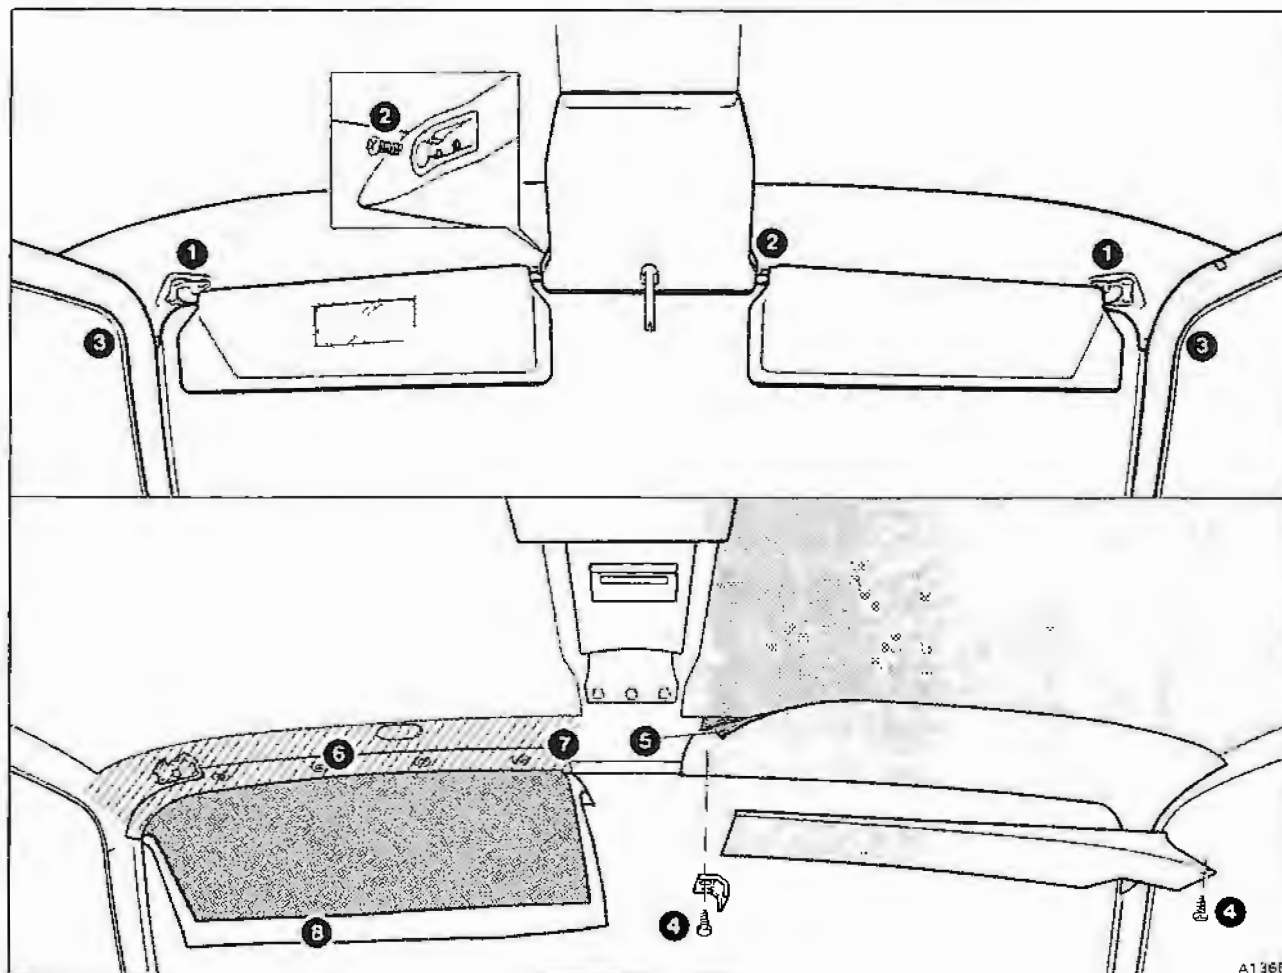
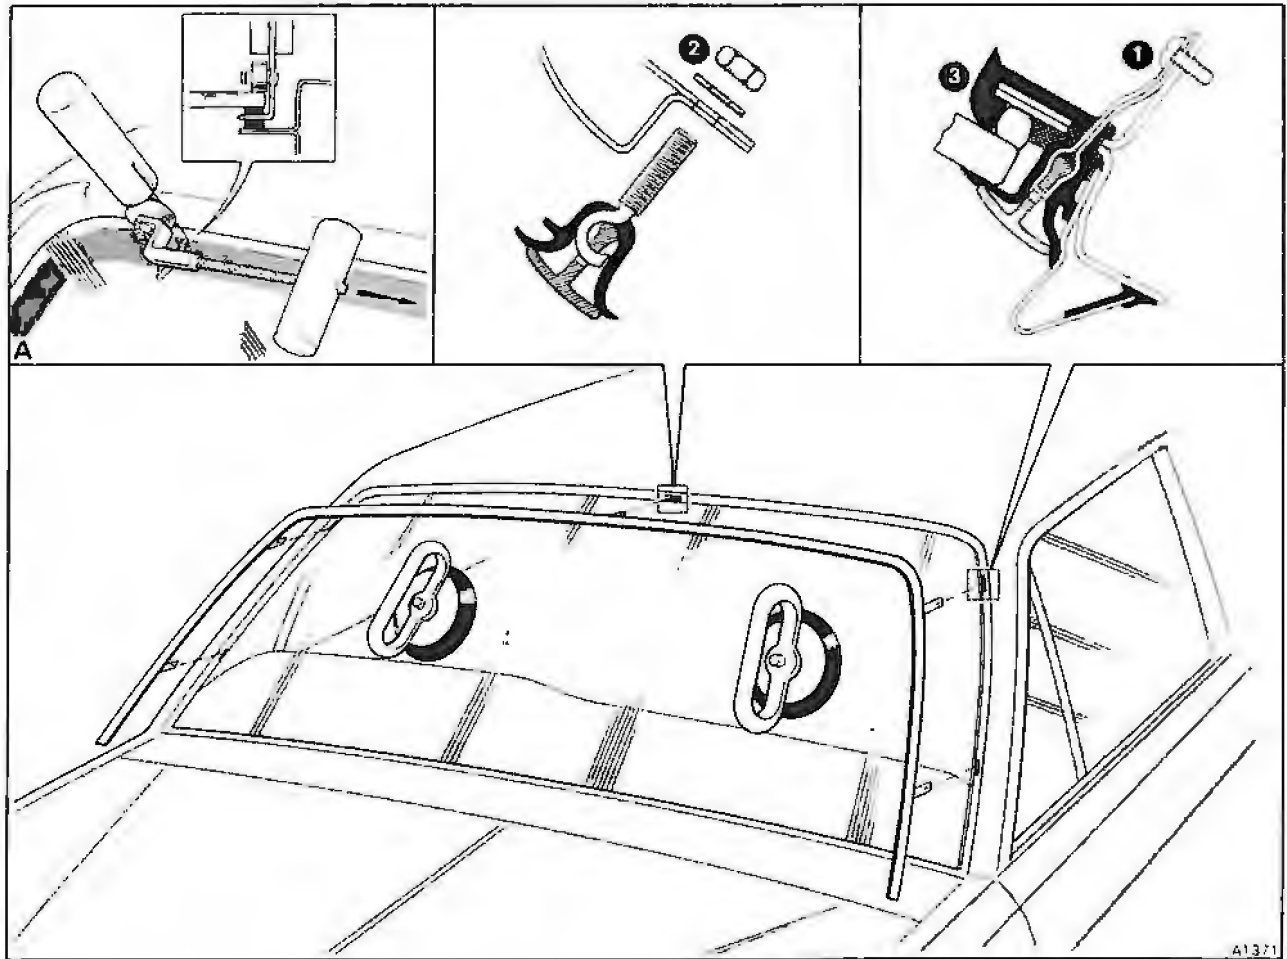

Fig. S8-2 Windscreen interior trim
Fig. S8-3 Windscreen sealing arrangement
10. Pull the sun visors from their inboard retaining clips. Release the screws and remove the sun visors (see fig. S8-2, item 1).
11. Remove the screws (item 2). Slide back the centre header trim panel and release the Lucar connector (if fitted) from the passenger side visor retaining clip. Remove the trim panel.
13. Unclip and remove the 'A' post/cantrail trim panel (item 3).
14. Release the screws (item 4) and remove the visor clip retaining brackets and header trim panels.
15. Carefully separate the glued edge of the header trim cloth and foam (item 5) from the headlining material. Remove the exposed self-tapping screws and washers (item 6), then remove the header trim pieces.
- windscreen finisher retention plates to the 'A' post panels (see fig. S8-3, item 1). Also, remove the nut and washer (item 2) from the finisher retention hook situated in the centre of the upper windscreen flange.
19. From inside the car, peel back and remove the spacing/finisher seal (item 3) from around the windscreen aperture flange.
From outside the car, insert the blade of the tool through the sealing compound and behind the glass (see fig. S8-3, inset A).
16. To fit the header trim pieces proceed as follows referring to figure S8-2.